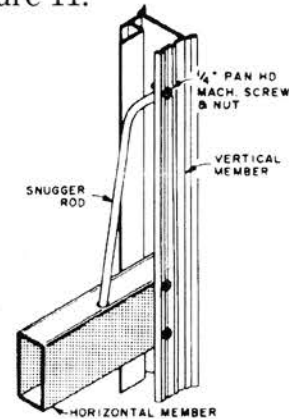

Figure 12
Select a horizontal door member that is at a convenient height and drill one (1) $17/32$ " diameter hole as shown. Next drill one (1) $9/32$ " diameter hole in the vertical door member. Figure 12.